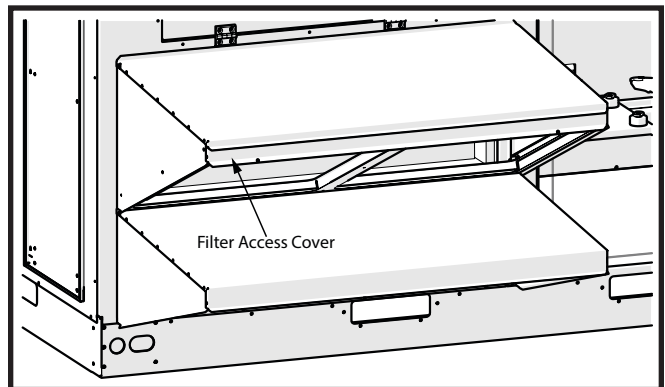

Figure 8. Intake top and filter access cover installed
- Apply a bead of adhesive sealant to mounting surfaces of the intake sides before installing hood top. See Figure 8. Install filters & filter access cover to hood sides.